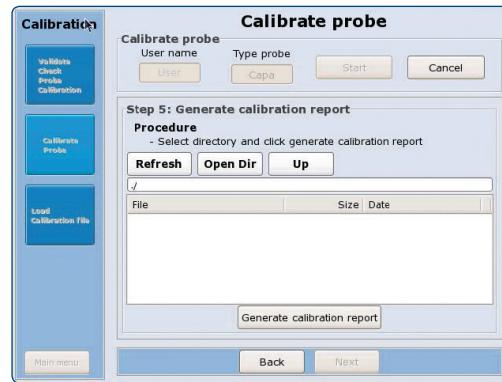

Figure 5: Generation of a Calibration Report.
- Choose the directory, where the Calibration Report should be stored and press Generate Calibration Report (Figure 5). The valid calibration is automatically saved in the memory of the Pre-amplifier.